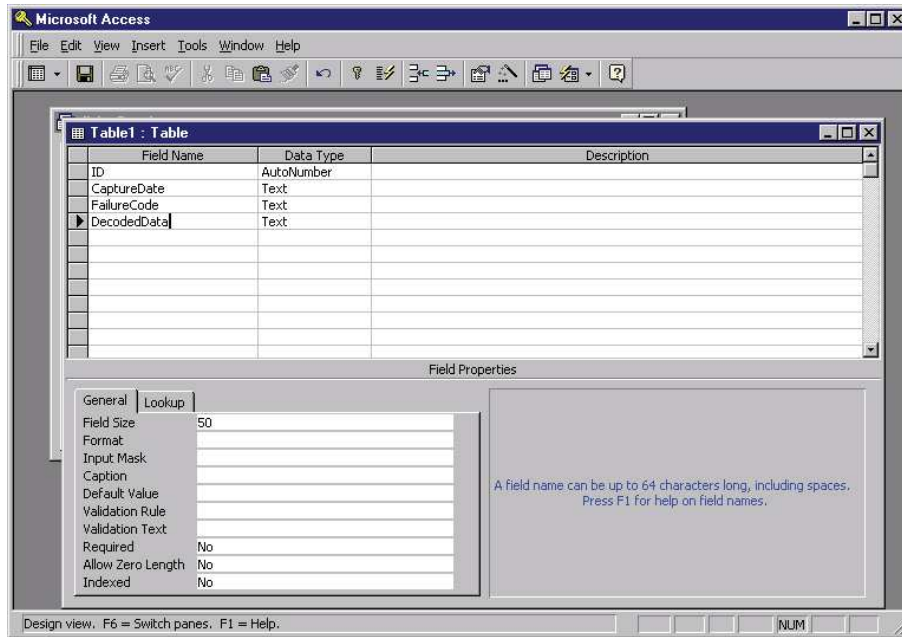

Figure 257 Adding Fields Using Design View in Microsoft Access
5. Name the next three fields **CaptureDate**, **FailureCode**, and **DecodedData**, and define them as **Text** data types. See Figure 257.